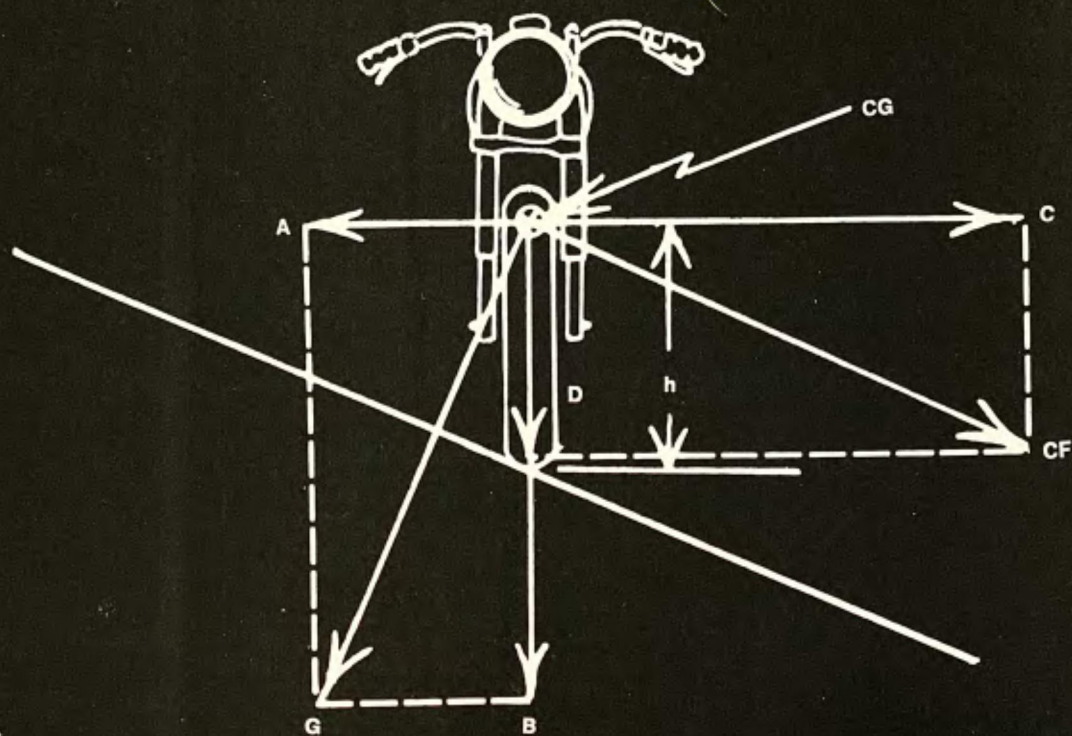

Figure 1
The simplest forces to look at are those caused by gravity. Fig. 1 shows that as you lean the bike sideways, gravity (G) continues to pull straight down on the center of gravity (CG), and only a portion (B) of the force shows up on the tires; the rest (A) acts on the center of gravity in such a way as to continue to pull the bike over. The torque acting on the bike is the force A times the lever arm h . Actually when we consider the whole situation including the rider, then the center of gravity must move up to take account of the weight of the rider.